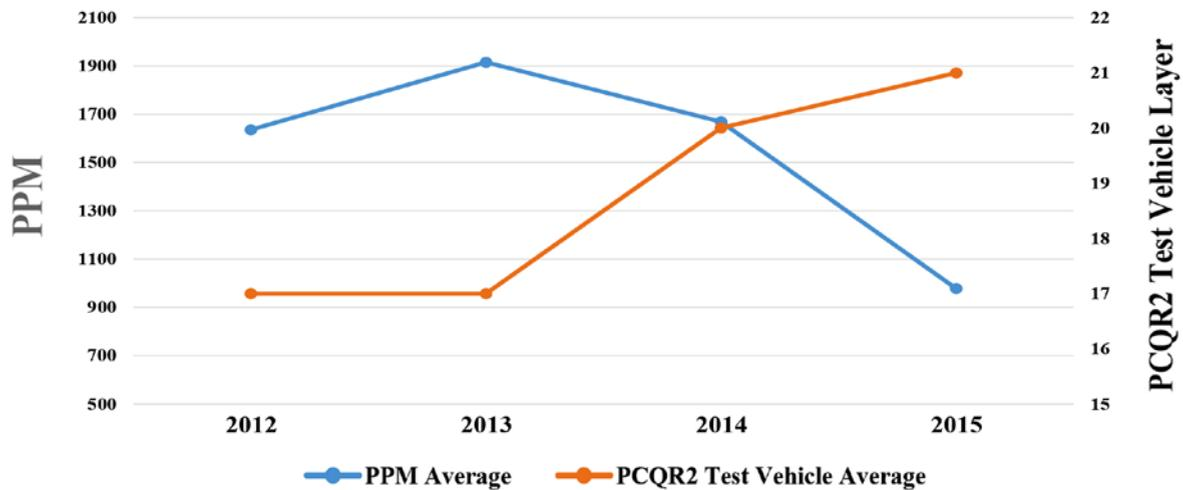

Figure 6: Quality improvement with PCQR.
- **Drives supplier quality.** Figure 6 shows PCB PPM reject trending down as the technical capability of our suppliers (represented by the average layer count of PCQR² submissions) increases.